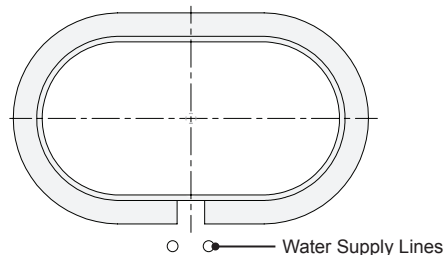

Figure 26. Pedestal Base Placement
- 1 Center the opening on the pedestal base with the drain opening (Figure 26).